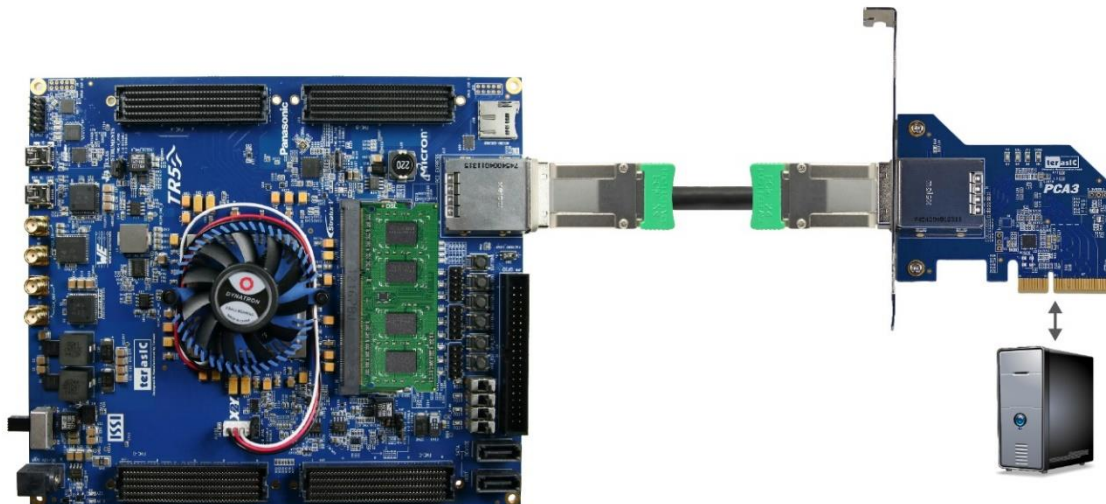

Figure 4-9 FPGA board connect to PC
1. Use the PCIe cable to connect to the TR5 PCIE connector and PCIe adapter card as shown in **Figure 4-9**.